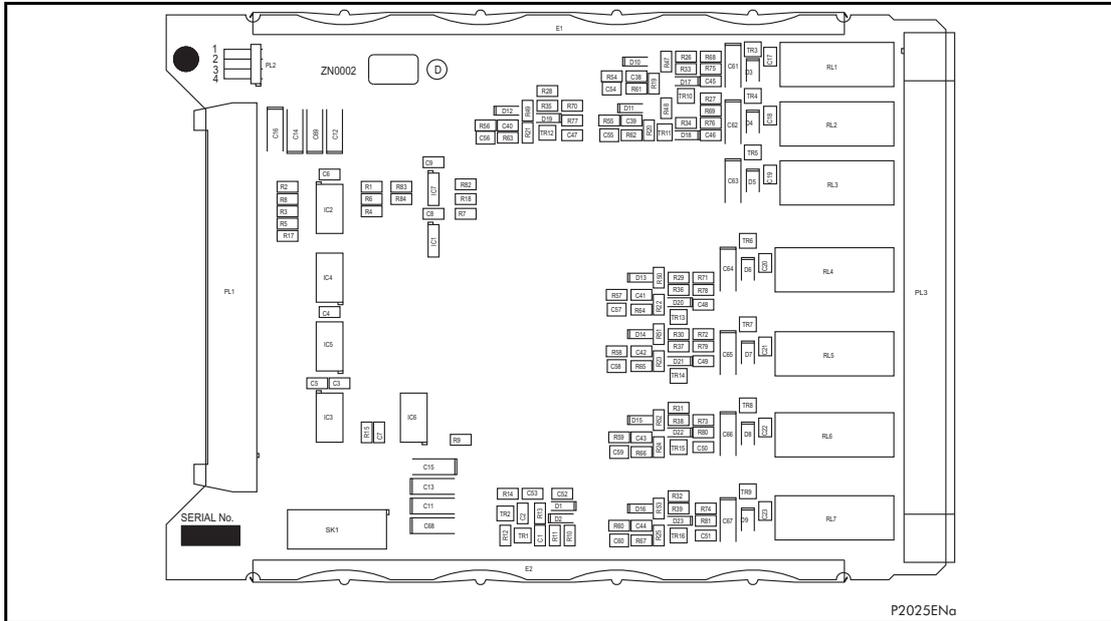
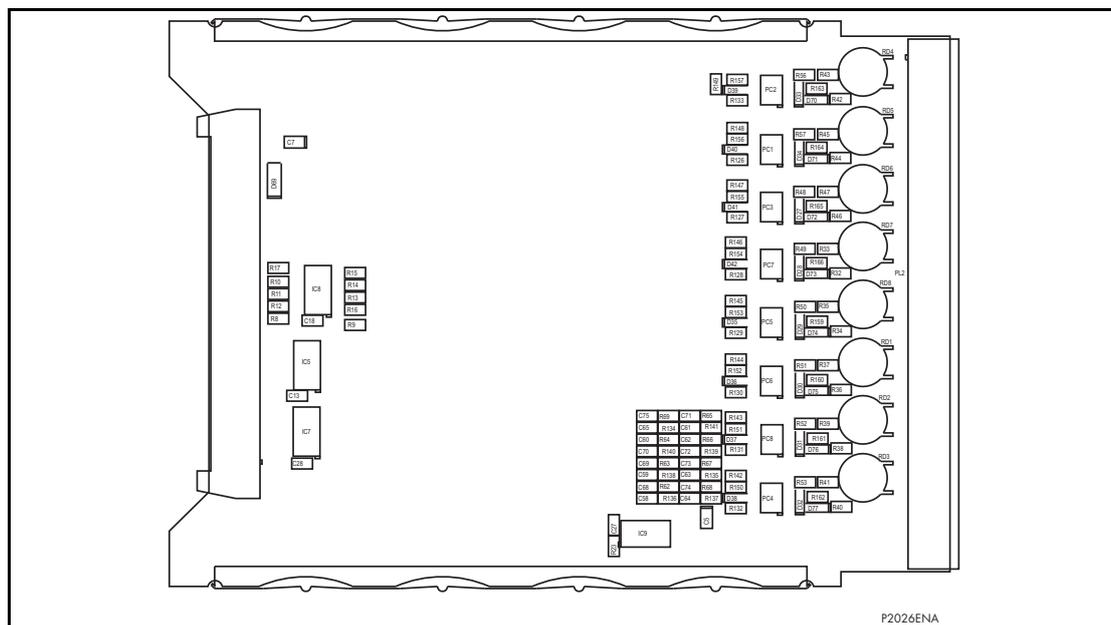

Figure 8: Typical relay board
Figure 9: Typical opto board
The relay board is the one with holes cut in it to allow the transformer and two large electrolytic capacitors of the power supply board to protrude through. To help identify the board see Figure 8.
2. If the relay board is being replaced, ensure the setting of the link (located above IDC connector) on the replacement relay board is the same as the one being replaced. To help identify the correct board has been removed, Figure 8 and Figure 9 illustrate the layout of the relay and opto boards respectively.